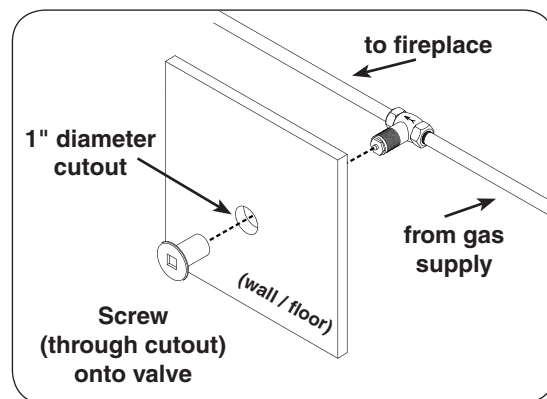

Fig. 3-1 Gas valve orientation
3. The gas valve must be installed by a qualified professional service technician per the orientation shown in Fig. 3-1. All connections must be tested for leaks prior to proceeding.